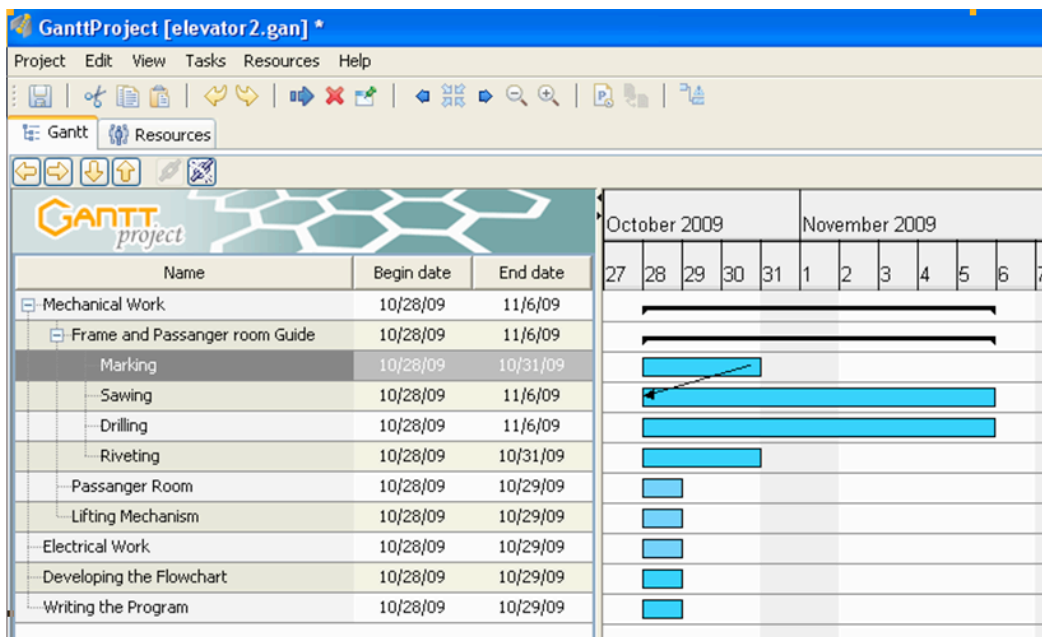

Figure 4.19: Task dependencies.
15. Next, you will specify task dependencies. In the Gantt chart, click and hold the Gantt bar for **Marking** drag it to the Gantt bar for **Sawing**, then release the mouse button as shown in figure 4.19. This step specifies that the start of the second subtask is dependent on the completion of the first, and moves the start date of the second subtask forward three days.